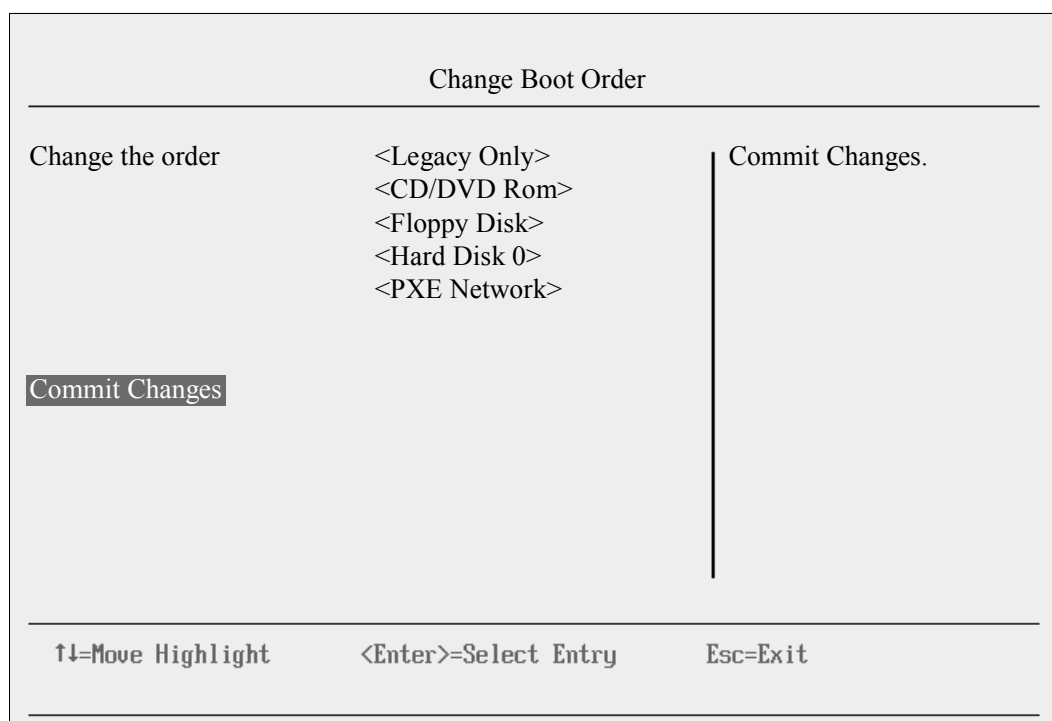

Figure 9-139 Change Boot Order panel
5. In the Change Boot Order panel (Figure 9-139), follow these steps: